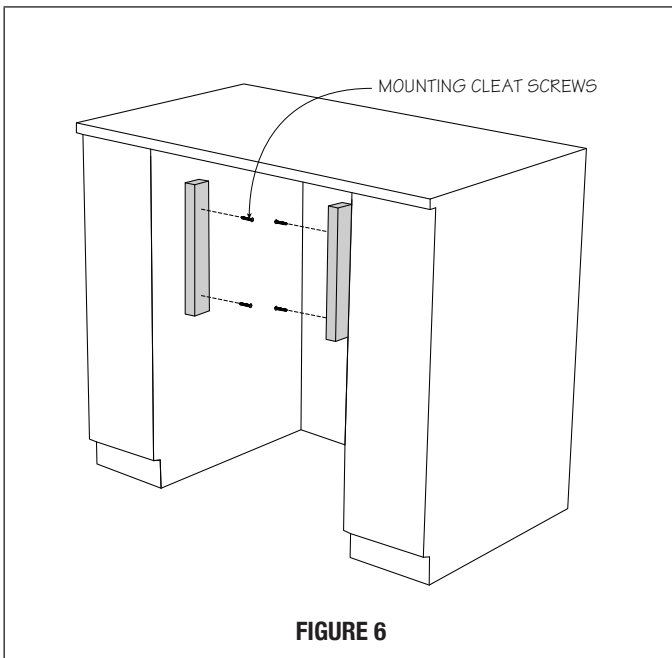
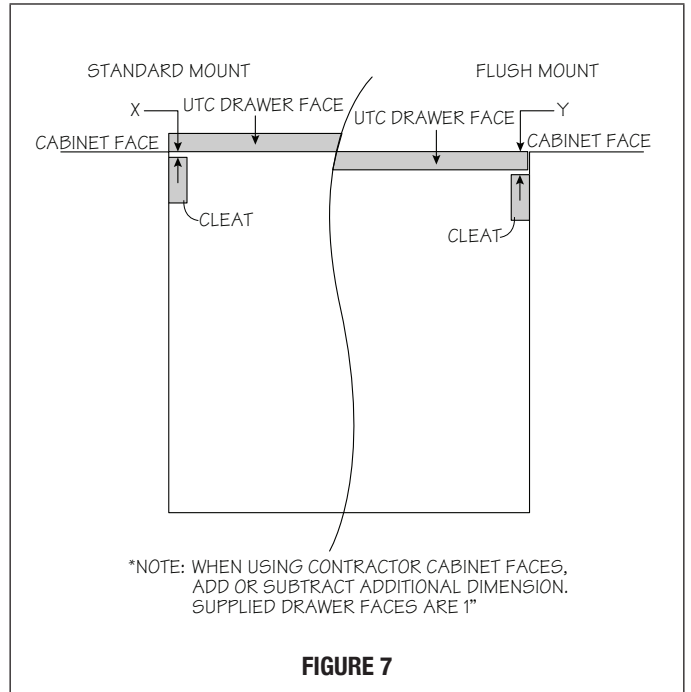

FIGURE 6
FIGURE 7
6. Install the wooden cleats. Align the bottom of the cleat to the measurement from Step 5. The pedestal can be installed flush or standard with the face of the cabinet. Depending on the preference, the depth of the cleat position should be adjusted as such. See Figure 6. Position each cleat and mark the holes on the cabinet. Pre-drill each hole in the cabinet using a 1/16" drill bit. Attach both cleats using the 4 mounting cleat screws. See Figure 7.